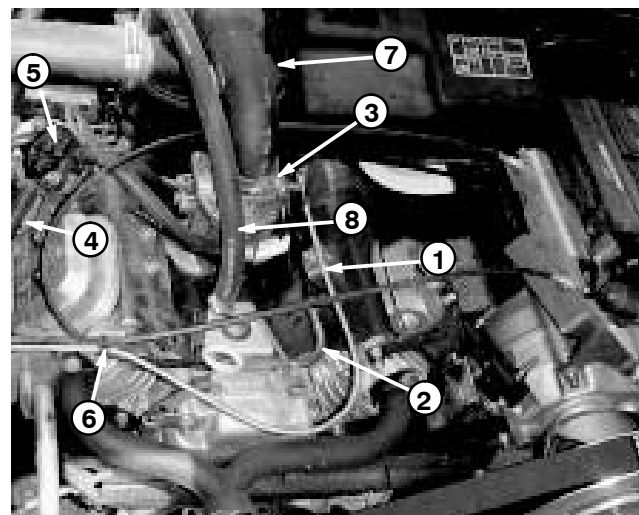

Figure 21
B. Air intake hose from the carburetor (Fig. 21).
C. Breather hose from the crankcase (Fig. 21).
5. Disconnect fuel hose from the fuel pump. Remove cable tie securing the choke, throttle, and shift cables to the bracket on the front cylinder head (Fig. 21).
9. Connect fuel hose to the fuel pump (Fig. 21).
B. Air intake hose to the carburetor (Fig. 21).
C. Breather hose to the crankcase (Fig. 21).
11. Secure choke, throttle, and shift cables to the bracket on the front cylinder head with cable tie (Fig. 21).